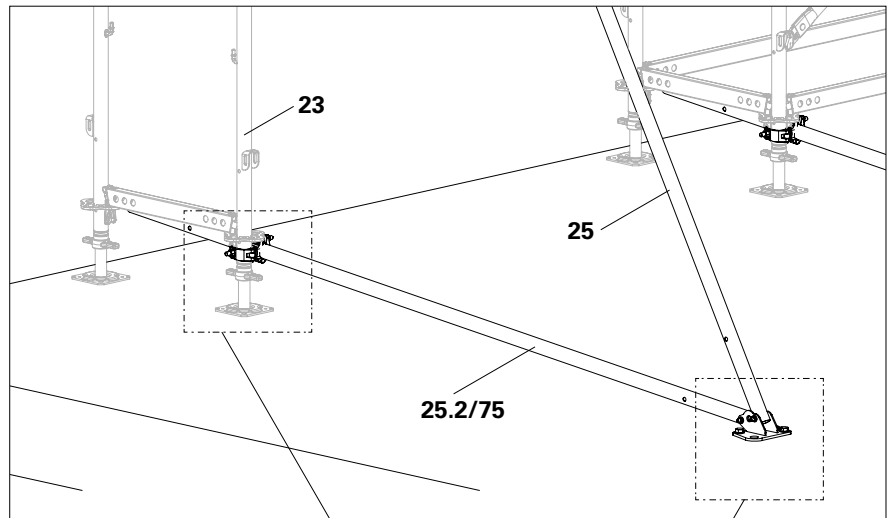

Fig. D7.06
- The bracing is now installed. (Fig. D7.06)